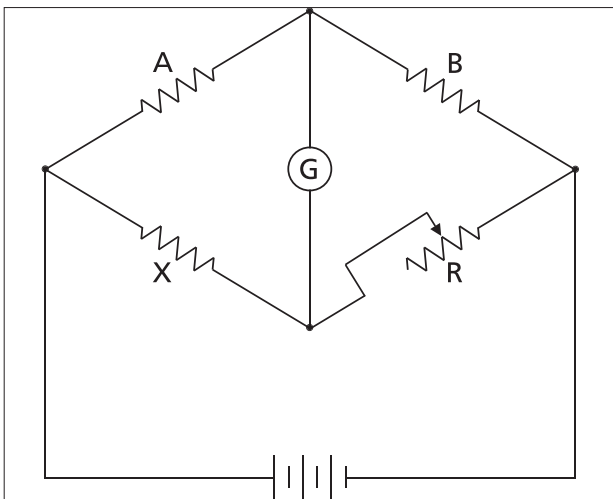

Fig 38: Wheatstone bridge circuit¹
A pioneering method for measuring resistance was devised in 1833 by S. H. Christie and made public by Sir Charles Wheatstone. The simplest arrangement is a square pattern of four resistors with a galvanometer connected across one diagonal and a battery across the other (see Fig 38). Two of the resistors are of known appropriate values and comprise the ratio arm (A + B). A third has a known value which can be varied in small increments over a wide range, and is thus designated the rheostat arm (R). The fourth is the resistance being measured, the unknown arm (X).